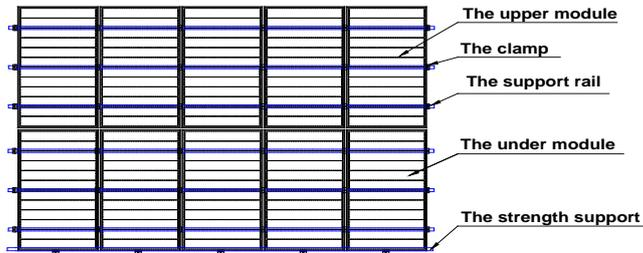

Figure 3 Schematic diagram of reinforcement mounting of module
6.2.1.3 For the roof system installed in the area with relatively heavy snowfall or snow cover in the meteorological records, the installer shall reinforce the supporting system at the lower frame of the module, in order to prevent the lower frame from being pressed and damaged by the falling snow or freezing of the melted snow. Schutten Solar suggests selecting the support reinforcing mechanism shown in figure 3.